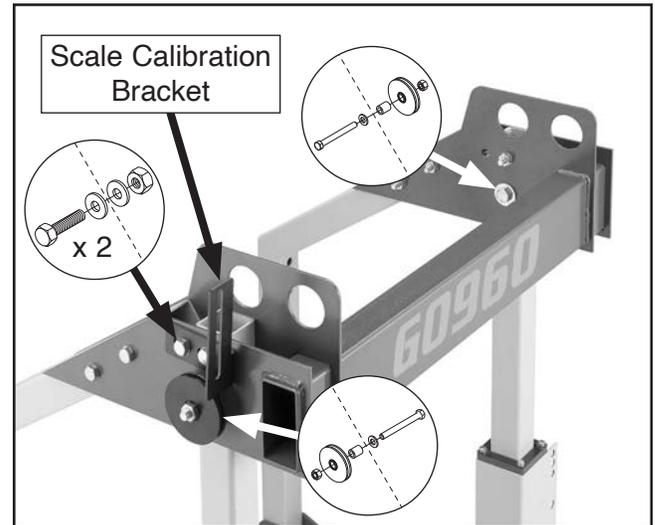

Figure 29. Scale calibration bracket and cable pulleys attached to cross beam.
25. Attach scale calibration bracket to cross beam with (2) M10-1.5 x 80 hex bolts, (4) $\frac{3}{8}$ " flat washers, and (2) M10-1.5 hex nuts (see **Figure 29**).
26. Attach (2) cable pulleys to cross beam with (2) M12-1.75 x 110 hex bolts, 12 x 19 x 23mm spacers, $\frac{1}{2}$ " flat washers, and M12-1.75 hex nuts (see **Figure 29**).